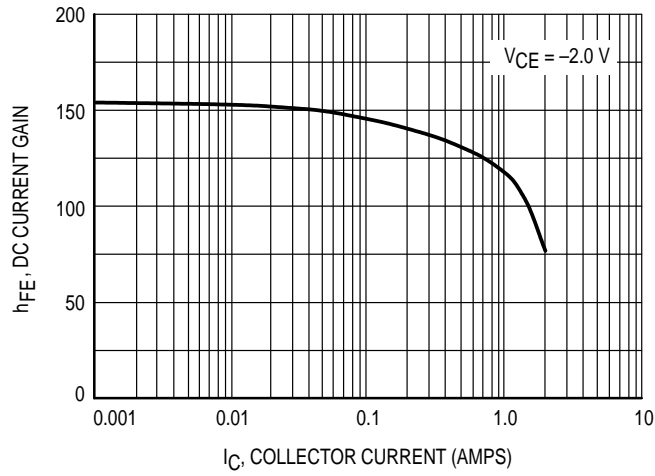

Figure 1. DC Current Gain versus Collector Current
| DC Current Gain (1) (Figure 1)( $I_C = -1.0\text{ mA}$ , $V_{CE} = -2.0\text{ V}$ )( $I_C = -500\text{ mA}$ , $V_{CE} = -2.0\text{ V}$ )( $I_C = -1.0\text{ A}$ , $V_{CE} = -2.0\text{ V}$ )( $I_C = 2.0\text{ A}$ , $V_{CE} = -2.0\text{ V}$ ) | $h_{FE}$      | 1001008040 | —300——      |                  |